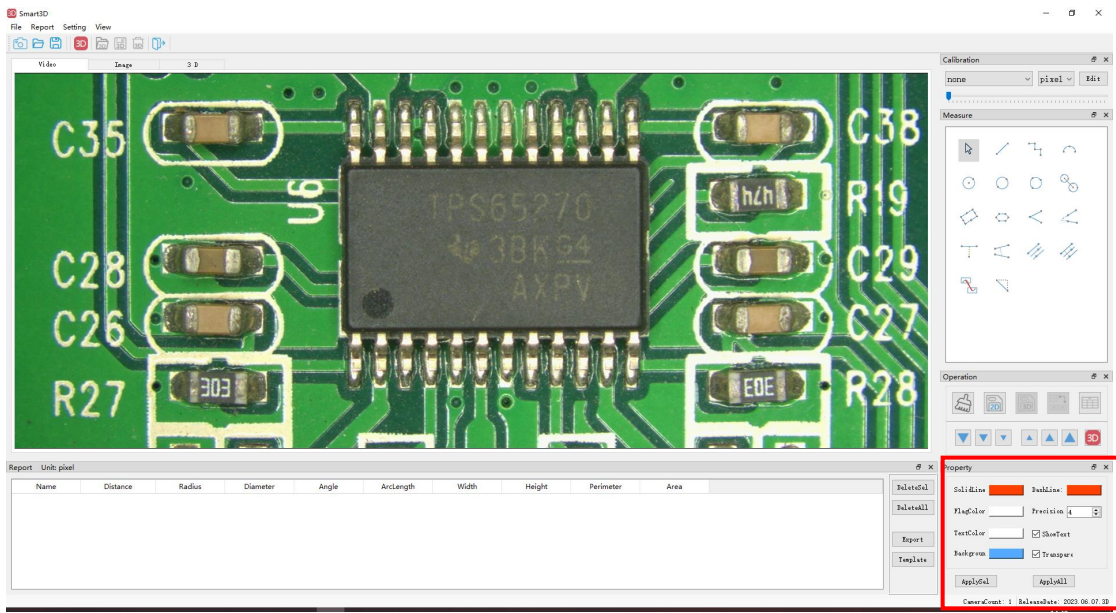

Figure 1.46 Property column
⑥ Properties bar: the parameters of the measurement tool such as line width and blue colour can be set, see Fig. 1.46